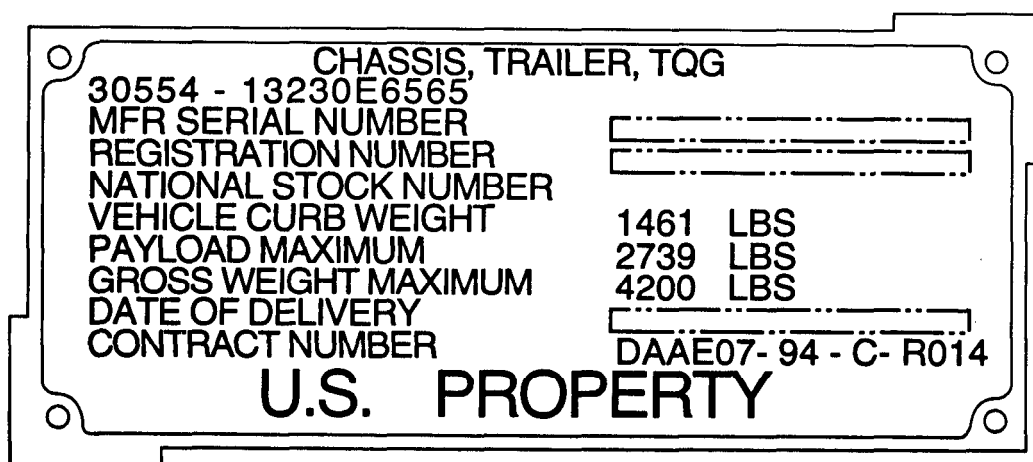

Figure 2-17.2. PU-801A Trailer Chassis Data Plate.
**2-6.7 PU-601A Trailer Chassis Identification Plate.** Refer to figure 2-17.2. This plate is located on curbside tow bar.